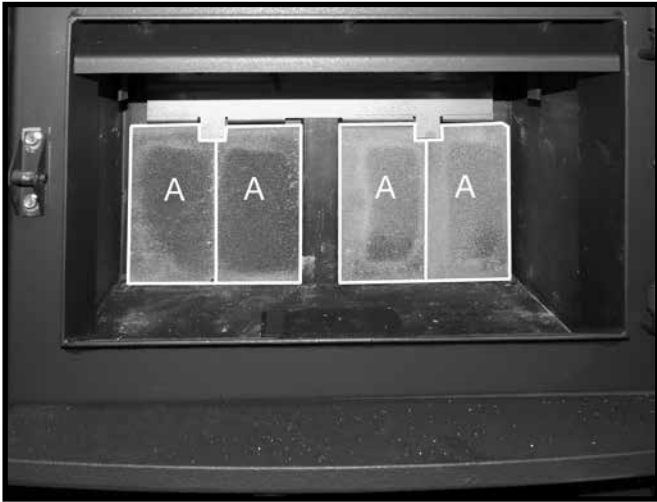

Figure 16: Remaining rear wall firebricks in place.
1. Stand one "A" firebrick vertically behind the tab located on the brick rail. Slide the firebrick toward the center of the rear wall (Figure 16). Slide a 2nd "A" firebrick underneath the tab on the brick rail (Figure 16). Repeat steps 1 & 2 for the placement of the other "A" firebricks on the rear wall (Figure 16).